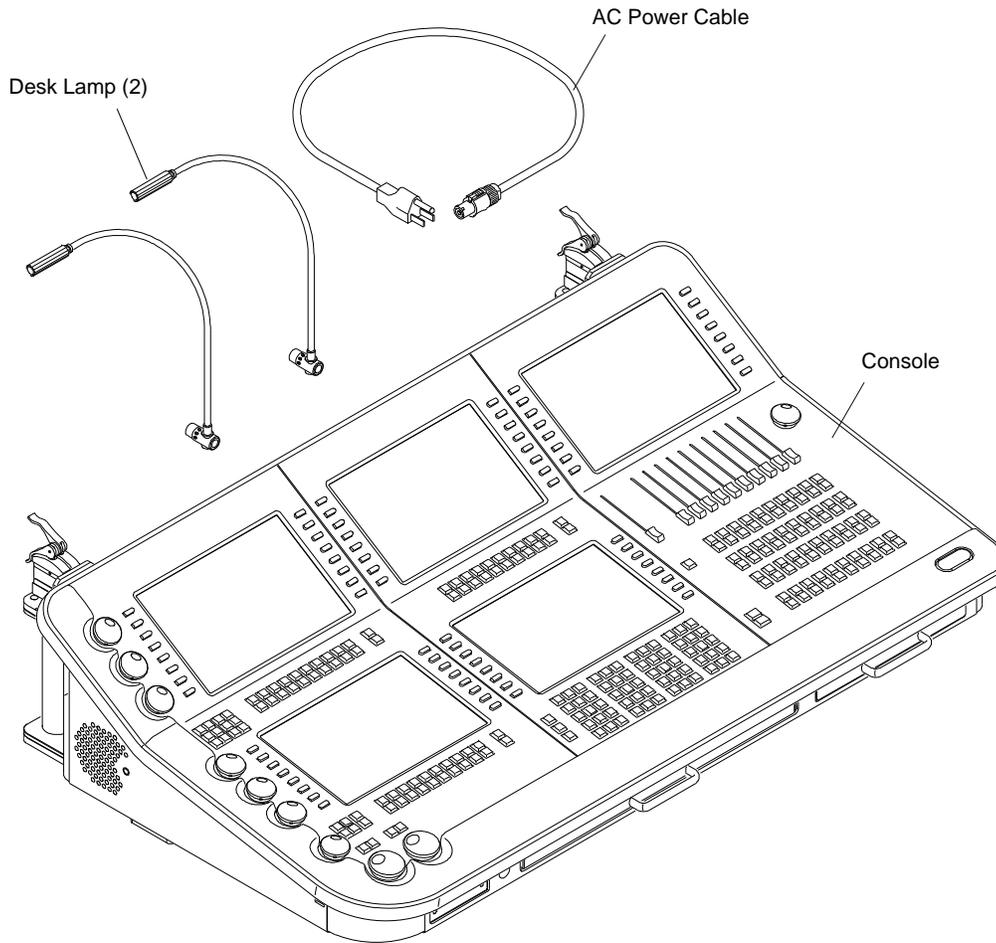

Figure 4: Unpacking the V676 Console Contents
- Step 1. Remove all components from shipping container (Figure 4).